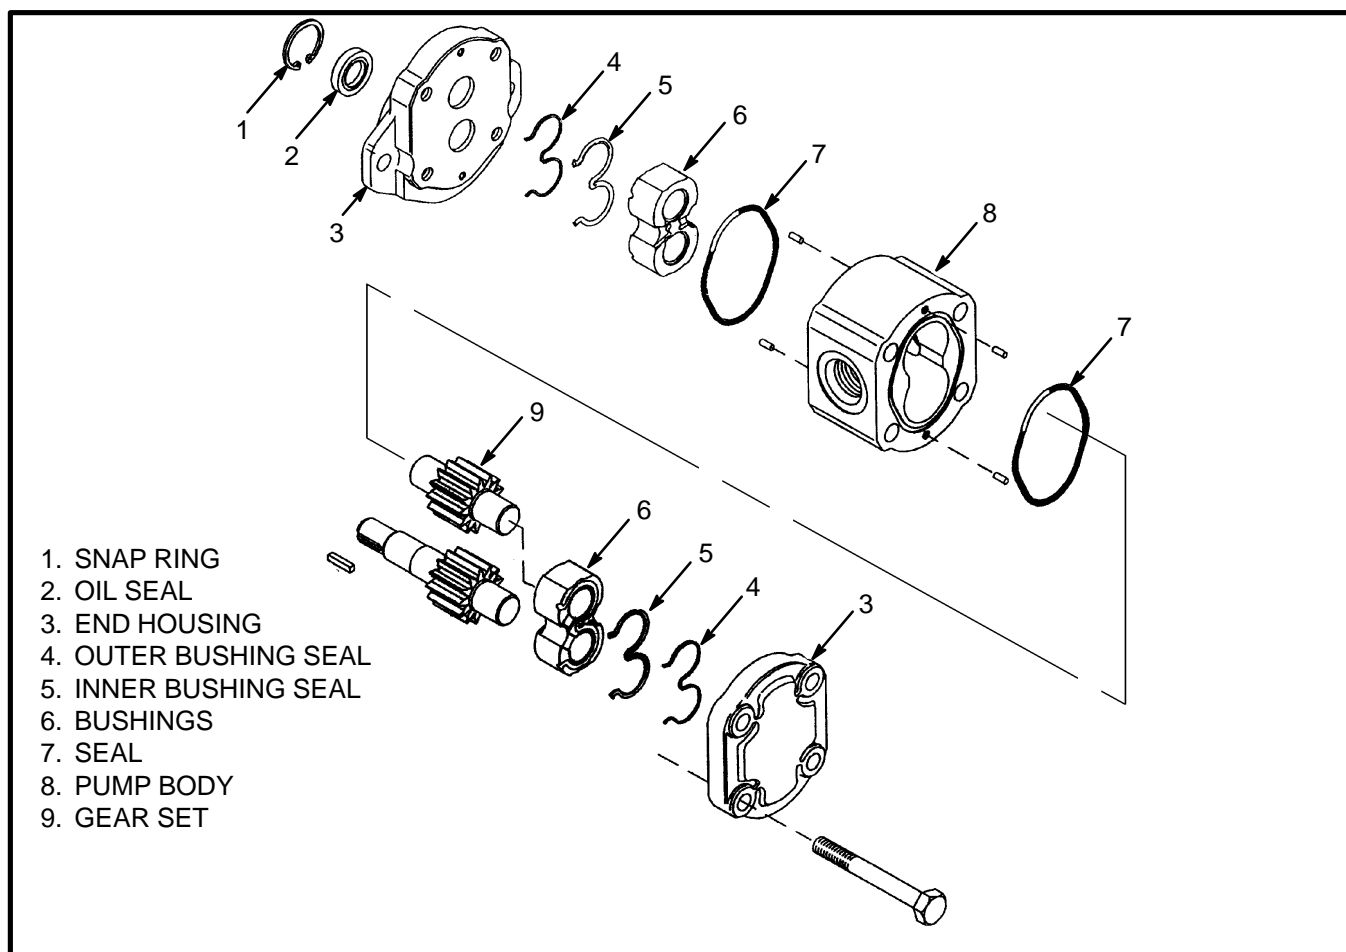

FIGURE 14. HYDRAULIC GEAR PUMP ASSEMBLY
Pump Seal Replacement And Pump Assembly (See FIGURE 14.)
7. Install the seals and the end of the pump with the flat face. See FIGURE 14.